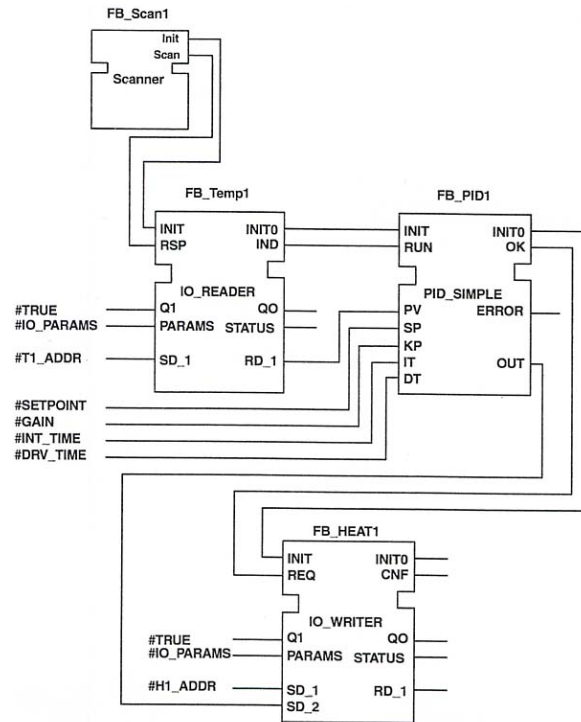

Figure 4 PID Controller Programmed with Function Blocks
A common example used to illustrate a function block application is PID control as shown in figure 4. The **IO_Reader** is a basic function block that scans the value of an analog sensor each time the input event **RSP** is triggered. The data from the sensor is read at the data input address **SD_1**. The algorithm of the **IO_Reader** simply takes the value at **SD_1** and transfers it to **RD_1**. When the transfer is complete, the output event **IND** is triggered, providing the input event **RUN** to the PID algorithm function block. When the PID function block reads the process variable (PV) data input, it executes a standard PID control algorithm and outputs the value of the control variable (CV). **IO_Writer** is a basic function block for writing a value to an actuator. When the PID FB executes **OK**, the event **REQ** begins the **IO_Writer** algorithm, which reads the value at **SD_2** and the address of the actuator (**SD_1**), then writes the value of the control variable to **RD_1**, the actuator physically connected to the process.